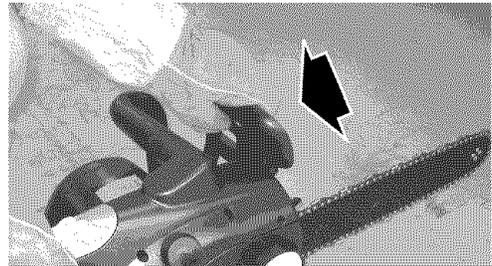

Fig. 4
2. Be certain the Chain Brake® is disengaged before starting unit (Fig. 4). Disengage it by pulling backward toward the motor.